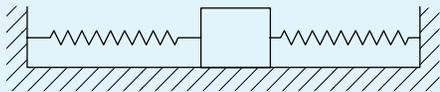

Figure 18.5
5. A mass of 3 kg rests on a smooth horizontal surface, as shown in Figure 18.5. If the stiffness of each spring is 1 kN/m, determine the frequency of vibration of the mass. It may be assumed that initially, the springs are un-stretched.